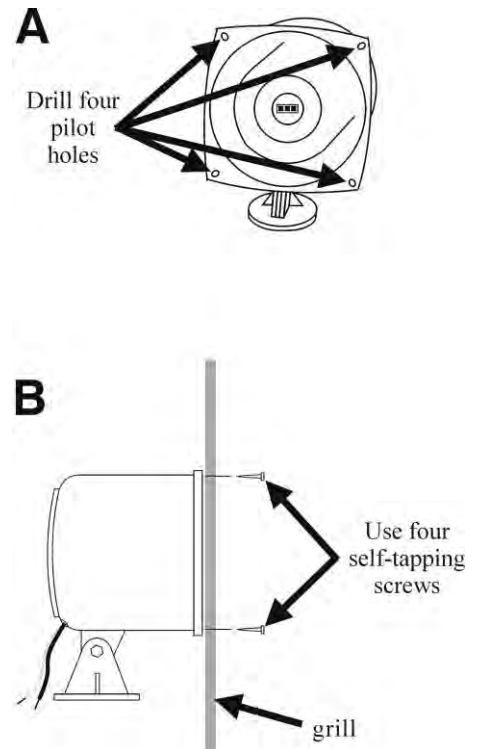

Figure 22. Installing the SP2000A
- Drill four 1/8 inch (3.2 mm) pilot holes at the spots shown on Figure 22 A, in the flange of the SP2000A.
- Hold the SP2000A flush against the inside of the speaker grill, with the four pilot holes on its flange directly over the four holes drilled through the grill speaker. From the outside of the speaker grill, drill the four enclosed self-tapping screws through the drilled holes in the speaker grill and through the SP2000A flange at each pilot hole, as shown in Figure 22 B.